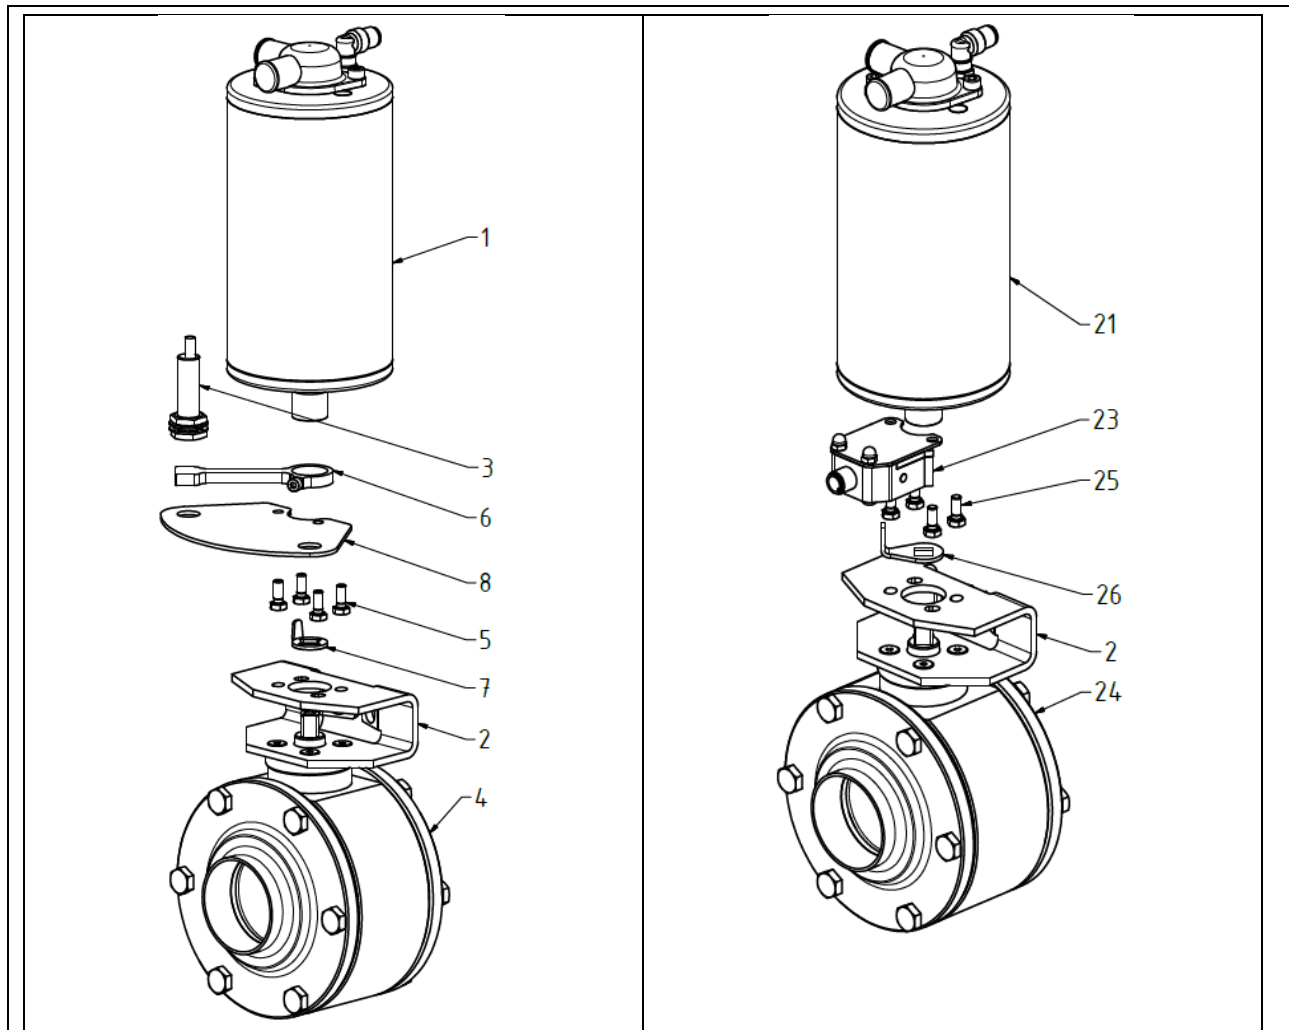

Fig. 6-10: Pneum. actuator with alternative feedback
- Release the hexagonal bolts (Fig. 6-10, item 5) and pull the pneumatic actuator (Fig. 6-10, item 1) upwards and off.
- Fasten the holding plate (Fig. 6-10, item 8) to the holding bracket (Fig. 6-10, item 2) and pneumatic actuator (Fig. 6-10, item 1) using the hexagonal bolts (Fig. 6-10, item 5).
- When doing this, guide the signal contact arm (Fig. 6-10, item 6) over the actuator shaft of the actuator and clamp it tight.
- Fasten the single proximity switches (Fig. 6-10, item 3) in the holes in the holding plate (Fig. 6-10, item 8).
- Ensure that the end of the control cam (Fig. 6-10, item 6) is exactly under the respective proximity switch when set to “open” or “closed”. Take note of the direction of rotation of the actuator when doing this (see section “3.3.2 Ball Valve with Pneumatic Actuator”). The clearance between the signal contact arm and the face of the proximity switch should not exceed 2 to 3 mm.
- Replace the position indicator (Fig. 6-10, item 7) with the switch cam (Fig. 6-10, item 26).
- Fasten the holding plate with double proximity switch (Fig. 6-10, item 23) to the holding bracket (Fig. 6-10, item 2) and pneumatic actuator (Fig. 6-10, item 1) using the hexagonal bolts (Fig. 6-10, item 5).
- Ensure that the contact vane of the switch cam (Fig. 6-10, item 26) is exactly in front of the respective proximity switch when set to “open” or “closed”. Take note of the direction of rotation of the actuator when doing this (see section “3.3.2 Ball Valve with Pneumatic Actuator”). The clearance between the contact vane and the front face of the initiator should not exceed 1 to 2 mm. The switch cam must not touch the proximity switch in any position.